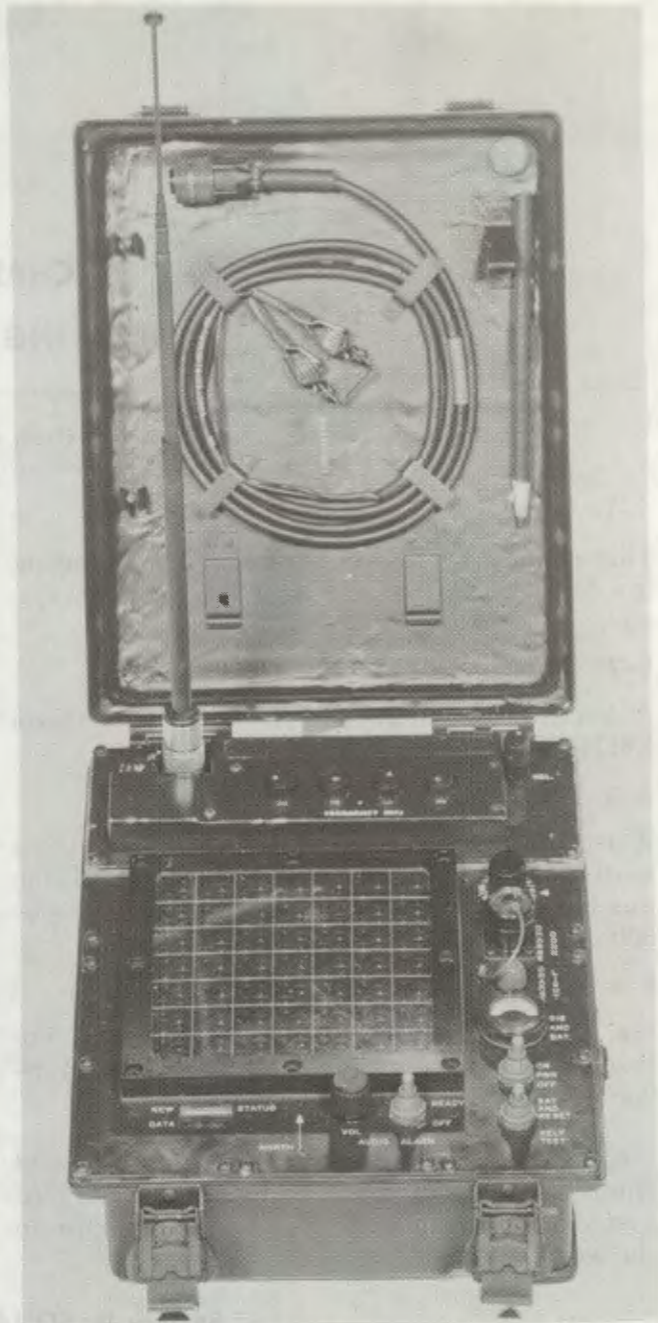

Figure 4-1. Target alert data display set.
e. Target Alert Data Display Set (TADDS) (Fig. 4-1). This set provides a one-way, digital data and voice radio circuit from a designated FAAR to the fire unit.